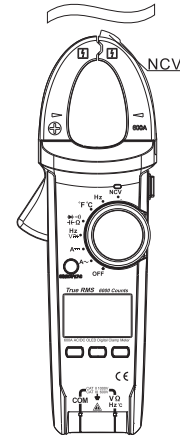

Fig. 12
**11.Measurement of induced voltage (shown as Fig. 12)**